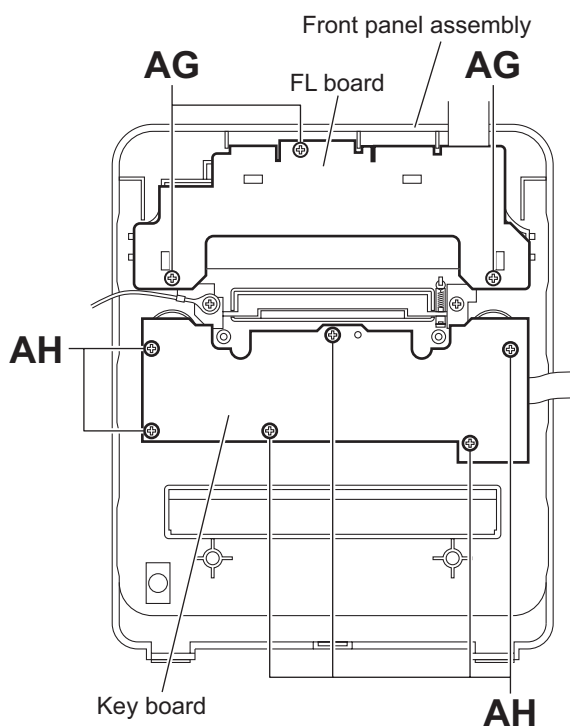

Fig.26
3.1.19 Removing the FL board (See Fig.26)
3.1.20 Removing the key board (See Figs.26 and 27)
- From the inside of the front panel assembly, remove the six screws **AH** attaching the key board. (See Fig.26.)